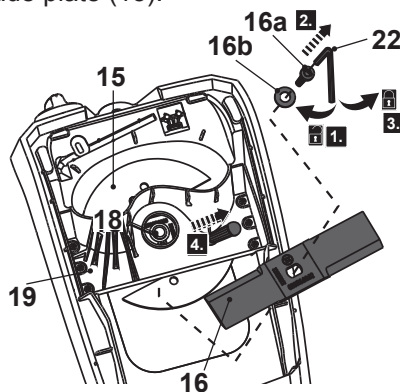

Fig. 13
9. Keep the spindle (18) locked and loosen the locking bolt (16a) anti-clockwise using the delivered hex key (22) (Fig. 13, step 1) and remove it together with the cutting blade (16) and the washer (16b) (Fig. 13, step 1).
10. Check the status of the blade plate (15) onto the spindle (18) firstly, then attach the cutting blade (16) onto the blade plate (15).
11. Attach the washer (16b) on the locking bolt (16a), then screw the locking bolt (16a) clockwise into the thread of the spindle (18) properly. Keep the spindle (18) locked and tighten the locking bolt (16a) clockwise to ensure safe operation of your product (Fig. 13, step 3). Do not overtighten.
12. Remove the tool from the location holes (15a, 19a) from the blade plate (15) and the blade guard (19) afterwards (Fig. 13, step 4).